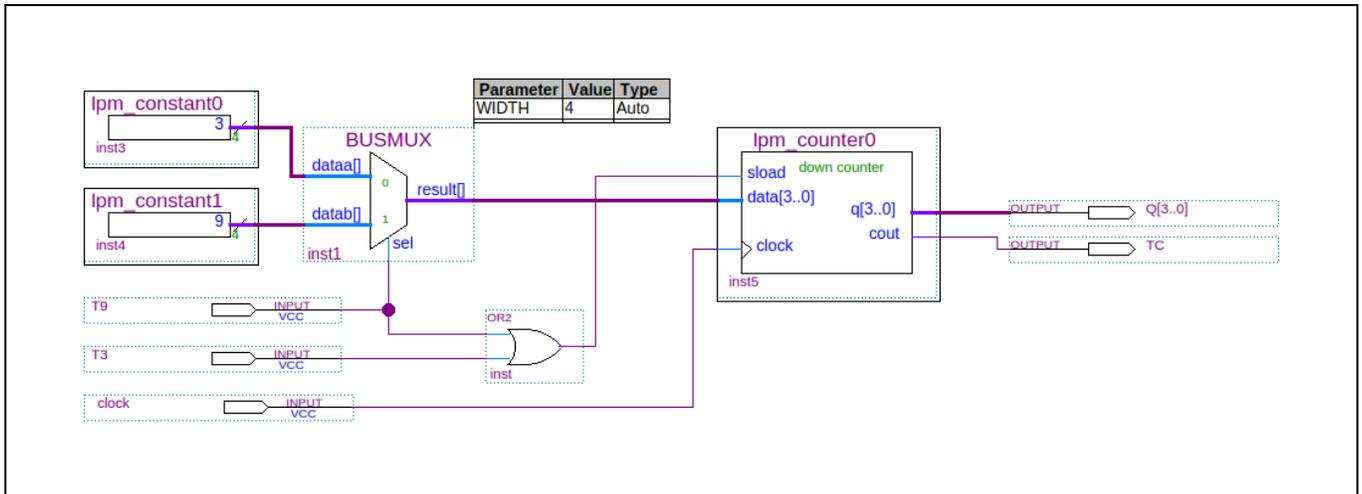

Figure 14. The timer module.
- Add a **busmux**, an OR gate, 3 input ports and 2 output ports like in Figure 14.